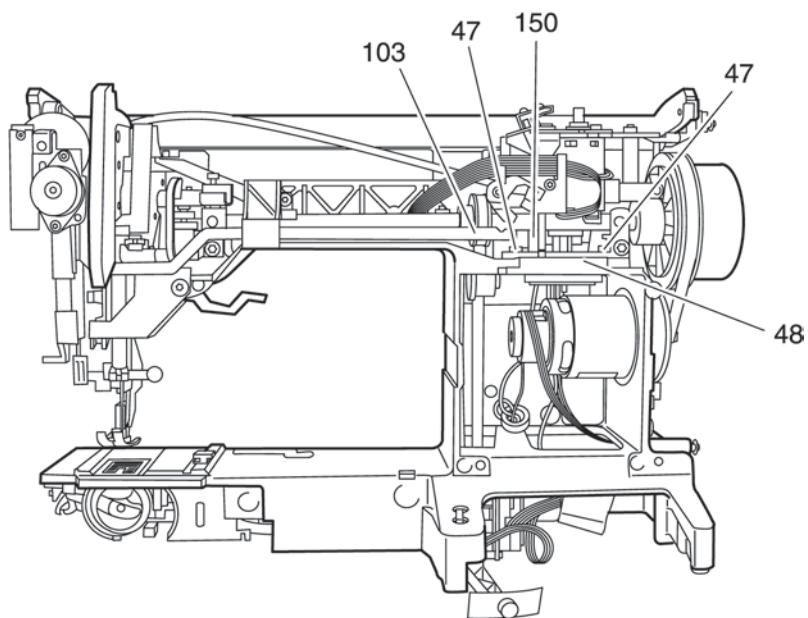

Fig. 40b
- Remove circlip 150 on zigzag stepping motor 48 (fig. 40b).
- Insert the pin of connecting rod 103 in the hole of the toothed segment (fig. 40b).